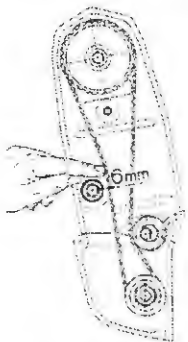

Figure 4.13
5. Inspect the belt free play as per Figure 4.13.
9. Replace the adjuster cam and 13 mm nut. Adjust the cam so the tension on the belt is similar to Figure 4.13.